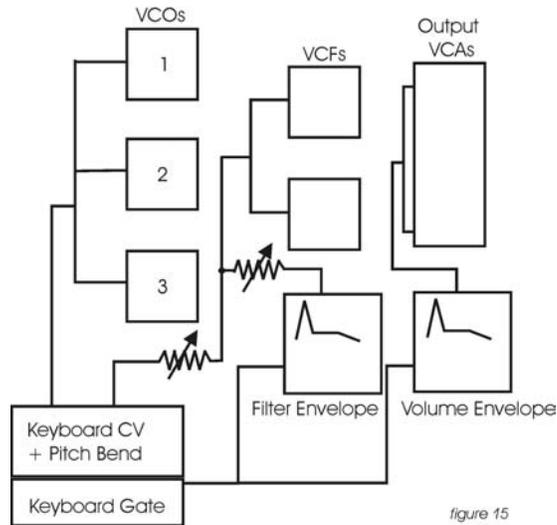

figure 15
- When a key is pressed, A Gate and Pitch CV are produced by the keyboard. The Gate signal is used to trigger both the Filter and Volume Envelopes. The Pitch CV is used to determine the pitch of the Oscillators and can be applied to a varying degree to the Filters through the Keyboard Control Amount knob (fig 15).